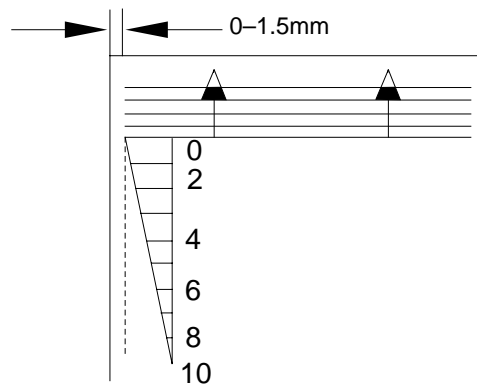

Figure 5-833
Remove the deck front cover; then, loosen the mounting screws ① on both left and right of the deck (2 in total), and slide the latch assembly ② back and forth until the specifications indicated in Figure 5-833 are met.